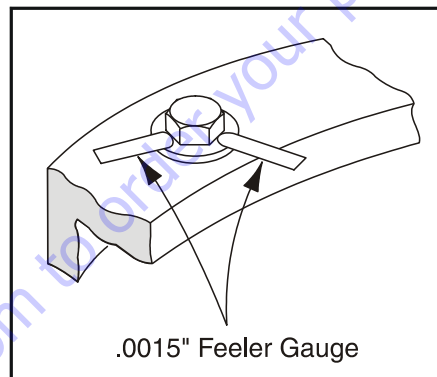

Figure 3-52. Swing Bolt Feeler Gauge Check
- b. At the position indicated on Figure 3-52. try to insert the 0.0015" feeler gauge between the bolt head and hardened washer at the arrow indicated position.